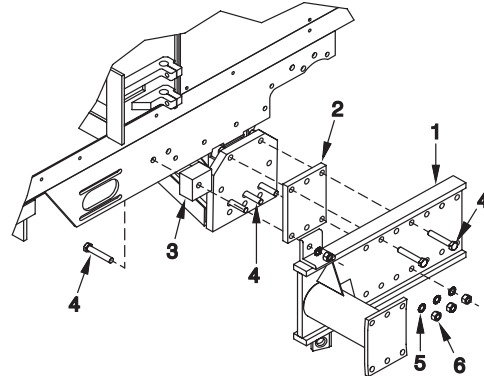

Figure 2-3-3 - Mounting Tandem Plate and Spacers
A. (See Figure 2-3-3) Place (3) Item 4 Bolts through the axle. Place (1) Item 4 Bolt through frame. Place (1) Item 2 Spacer, (1) Item 1 Tandem Plate, and (1) Item 3 Bar Spacer as shown. Place remaining bolts, star washers, and nuts on so the tandem plate and spacer are secure. Torque all nuts and bolts as per torque chart on page 2-3-1.